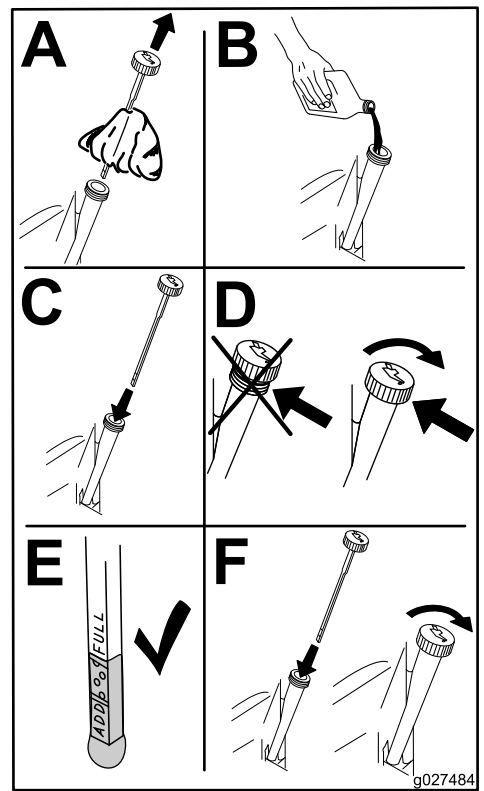

Figure 33
6. Slowly pour approximately 80% of the specified oil into the filler tube and slowly add the additional oil to bring it to the **Full** mark (Figure 33).